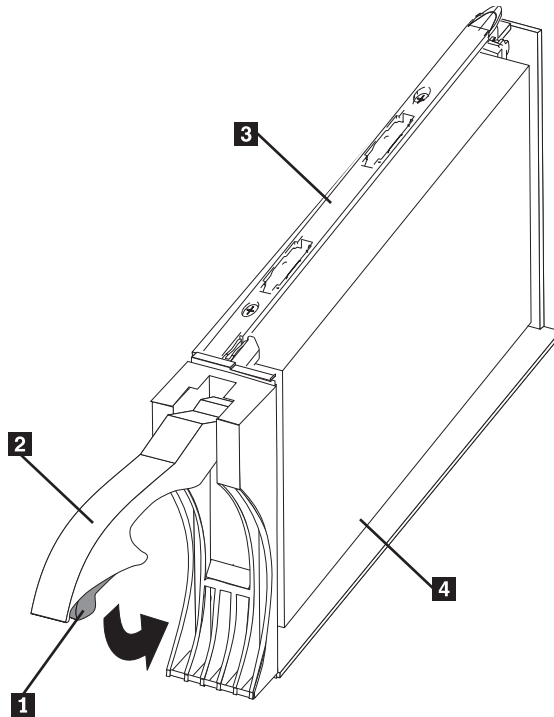

Figure 20. Drive CRU assembly
**Note:** Your hard disk drives might have a different latching mechanism than the one shown in Figure 20 on page 64. See the documentation that comes with your storage enclosure for details.